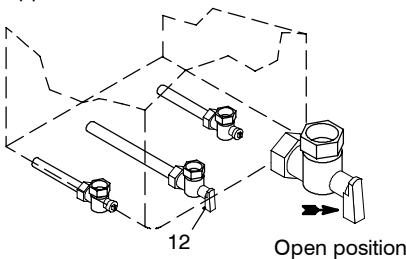

Fig. 7.1
- 1 Inspect the entire installation including the gas meter, test for tightness and purge, all as described in BS 6891; For Ireland (IE), refer to I.S.813.2002.
- 2 Open the gas cock 12 (Fig. 7.1) on the appliance and check the gas connector on the appliance for leaks.